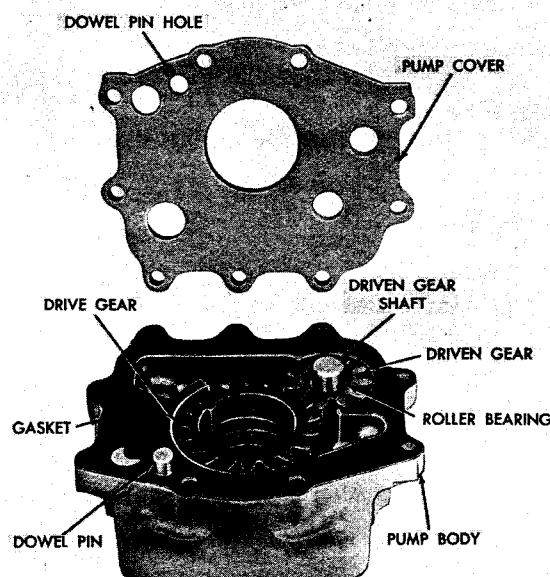

Fig. VI-17. Charging oil pump
a. Disassembly (A, foldout 7) (fig. VI-17)
(1) Tap on pump body 9 (A, foldout 7) to loosen pump cover 17. Remove pump cover and gasket 16.
(2) Remove drive gear 12.
(3) Remove driven gear assembly 13. Do not remove roller bearing 14 from driven gear 15 unless necessary for replacement. If necessary, remove the roller bearing.
(4) Do not remove driven gear shaft 11 unless replacement is necessary. If necessary, remove the shaft.
(5) Do not remove oil seal 7 unless necessary for replacement. If necessary, remove the seal.
(6) Do not remove dowel pin 10 unless necessary for replacement. If necessary, remove the pin.
c. Assembly (A, foldout 7) (fig. VI-17)
(1) If dowel pin 10 (A, foldout 7) was removed, install the dowel pin so that the end extends 0.420 above the cover split line surface of body 9.
(2) If oil seal 7 was removed, install a new seal.